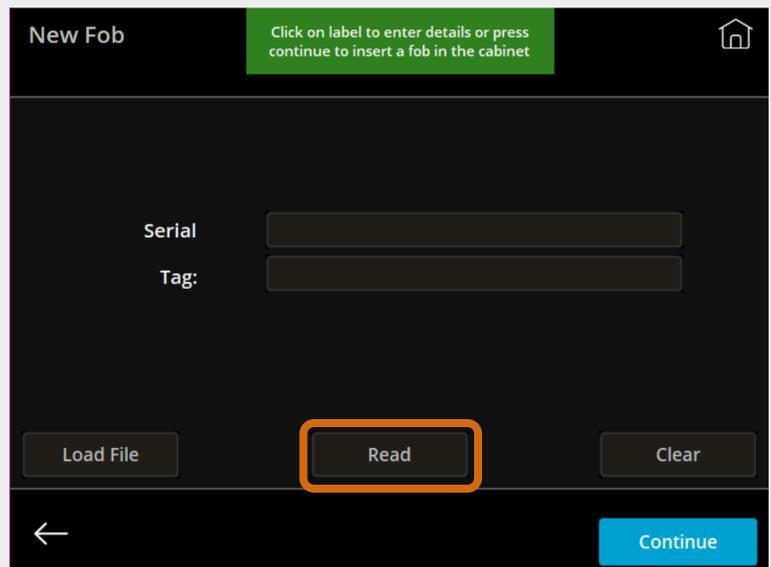

Fig. 30 – New Fob screen with Read button indicated
6. Press **Read** in the lower part of the screen, shown in Fig. 30.